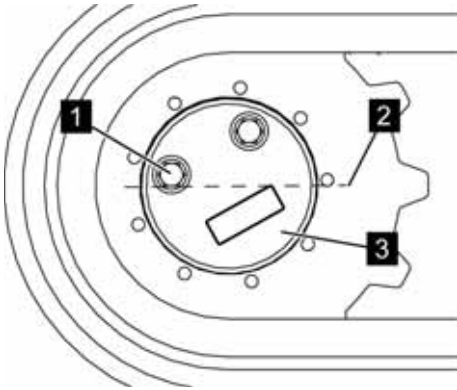

Fig. 140: Aligning the aerial access platform
2. ➤ Align the machine so that the lower edge of the screw connection (Fig. 140/1) is on the middle axis (Fig. 140/2) of the gearbox unit (Fig. 140/3).